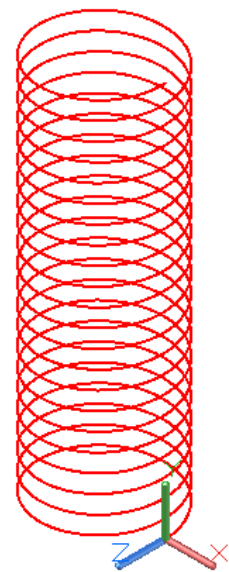

Figure Step 6
Step 6 Set layer: Construction as the current layer and the current UCS to Front. (Figure Step 6)